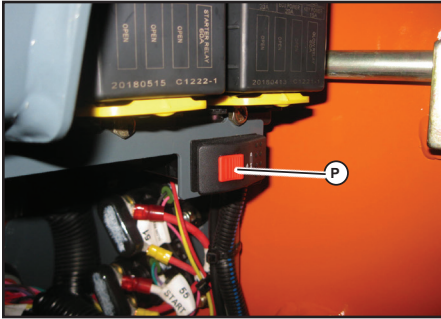

Fig. 77 - Track Tension Switch
2. With the machine running and the drive system not moving, open the engine compartment. Press and hold the red lock button (P, Fig. 77) on the track tension service switch, press the switch to set the track tension cylinders into the service (retracted) position.
13. Start the machine, open the engine compartment and press the track tension service switch (P, Fig. 77), to set the track tension cylinders into the operating (extended) position.